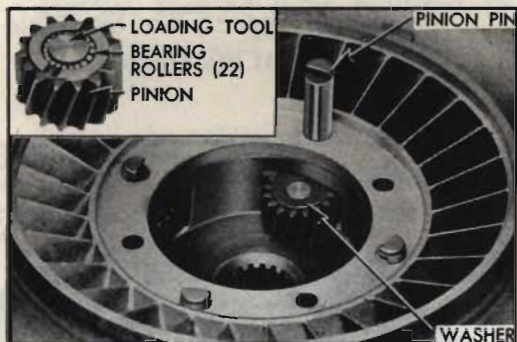

Fig. 15. Installing pinion in carrier
NOTE: A loading tool 11/16" long by 3/8" diameter, made locally, will simplify installation of pinion gears (Fig. 15).
- b. Place assembled pinion gear in carrier and install a pin, notched end up. After loading pin is pushed from carrier, pinion pin may be held in position by placing a block under it. All notched ends of pinion pins must face center of carrier (Fig. 15).